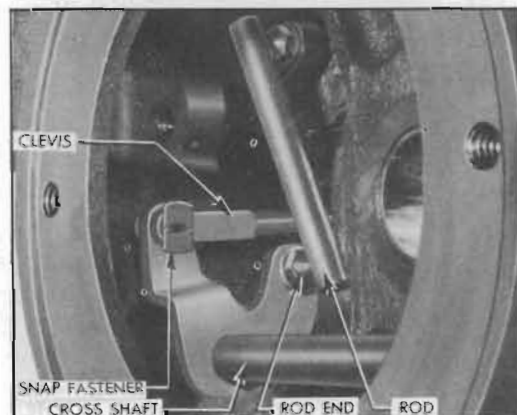

Figure 4-118—Connections to Cross Shaft
clevis assembly through front end of bearing retainer. See figure 4-118.
2. Disconnect the parking lock operating rod from the cross shaft by unscrewing the rod end from cross shaft lever. The rod end is provided with a lockwasher. See figure 4-118.
5. Connect the parking lock operating rod to cross shaft lever, using a lockwasher on the threaded rod end. See figure 4-118. Do not connect the valve operating rod and clevis to cross shaft at this time.